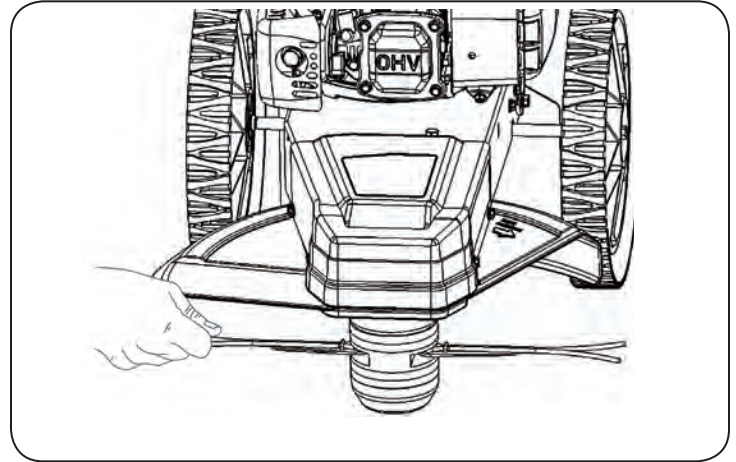

Figure 4
1. Insert the end of the cord into the side openings in the line plate (see Figure 4).